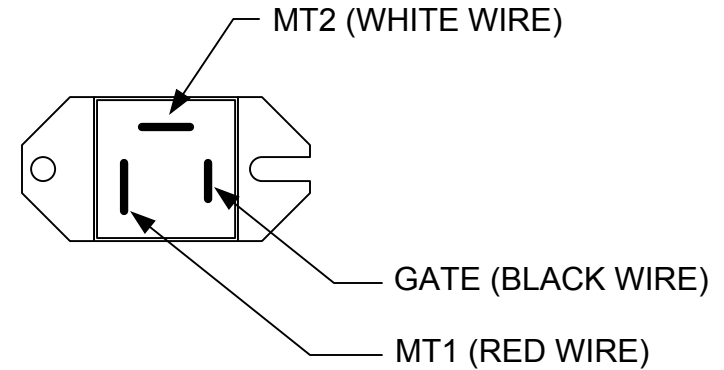

Figure 2 - New Triac
- Step 8: Place the red wire on MT1 spade lug. (See Figure 2)
- Step 9: Place the white wire on MT2 spade lug. (See Figure 2)
- Step 10: Place the white wire on MT2 spade lug. (See Figure 2)